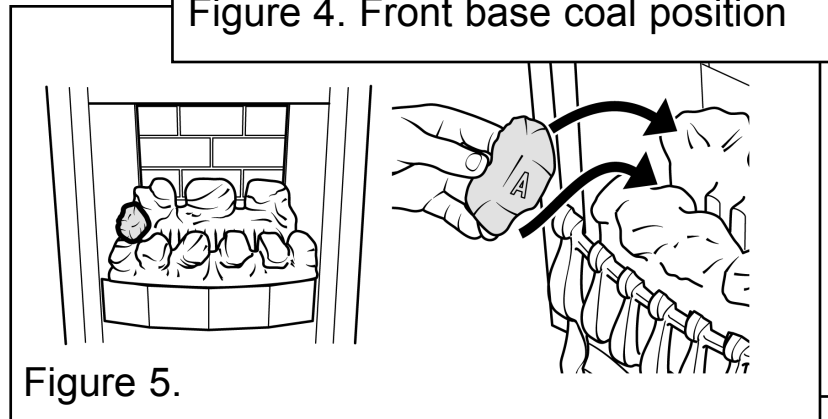

Figure 5.
3. Place a type “A” coal between the front and rear base coals with the letter “A” upright and so that the coal is against the left side of the firebox. See figure 5.